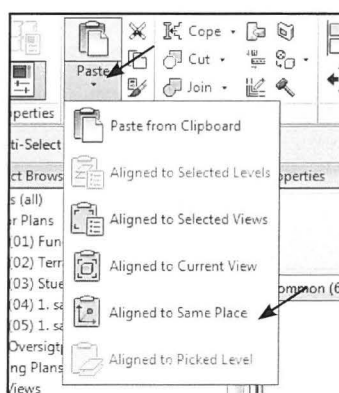

Fig. 15.10. Vælg *Paste - Aligned to the same Place*.
- Klik *Paste - Aligned to the Same Place* (Fig. 15.10).